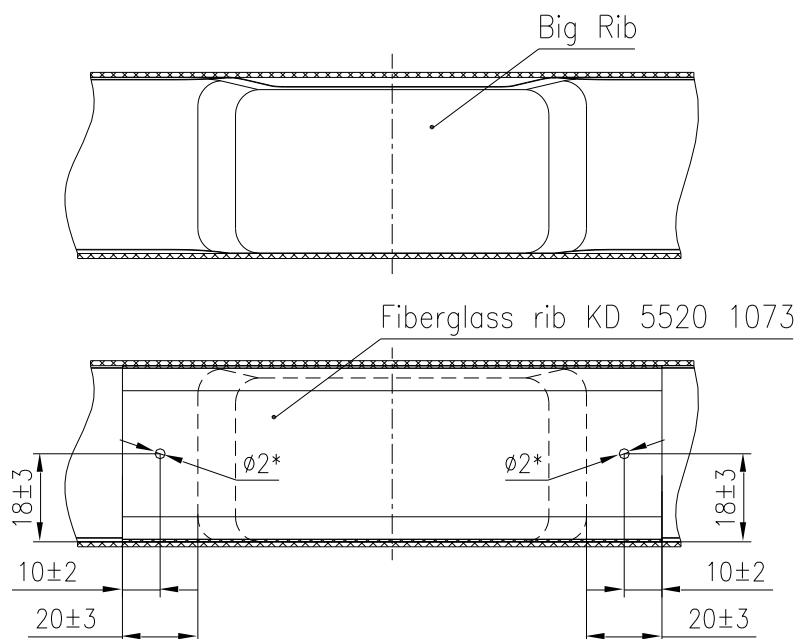

Fig. 3-26
Fit each Fiberglass Rib KD 5520 1073 in accordance with Fig. 3-26.
- **Note:** Drill the auxiliary holes in the Fiberglass Ribs KD 5520 1073 by the holes as per Fig. 3-26. If marking meets the holes from drilled out rivets move the position 5mm to the side.